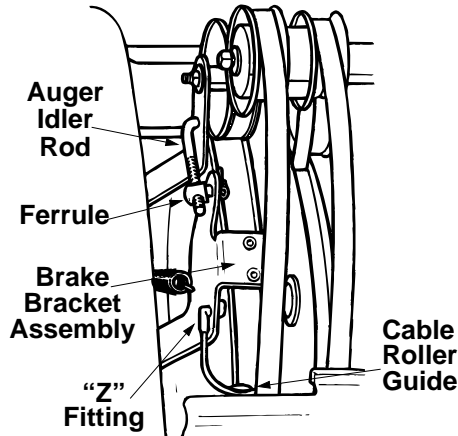

Figure 18
4. Remove the cotter pin and washer from the ferrule in order to disconnect the auger idler rod from the brake bracket assembly as shown in Figure 18.
5. Slip the auger drive belt (the front belt) off the engine pulley. Refer to Figure 18.
Proper Adjustment With the auger clutch lever in the disengaged position the top surface of the new belt should be even with the outside diameter of the pulley. To adjust, disconnect ferrule from the brake bracket assembly and thread ferrule in (towards idler) to increase tension on belt, out to decrease tension. (See Figure 18.)
- Attach the "Z" fitting of the cable into the brake bracket assembly. See Figure 18.